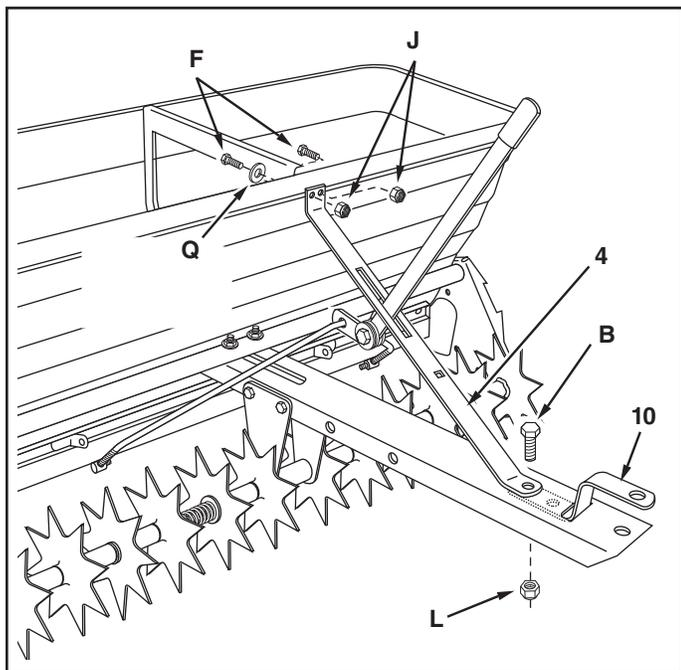

FIGURE 22
32. Attach the hopper brace (4) to the hopper using two 1/4" x 5/8" hex bolts (F), one 1/4" flat washer (Q), and two 1/4" nylock nuts (J). **Do not tighten yet.** See figure 22.
33. Place the end of the hitch bracket (10) with two holes down through the slot in the tongue. Attach the hopper brace to the top of the tongue and the hitch bracket to the bottom using one 3/8" x 1" hex bolt (B) and one 3/8" nylock nut (L). **Do not tighten yet.** See figure 22.